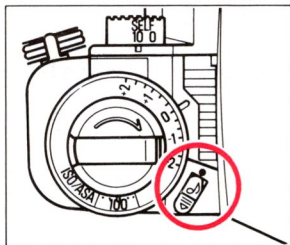

Fig. 38
- ★ The Self-Timer sound can be eliminated with the Beep Switch. (Fig. 38)